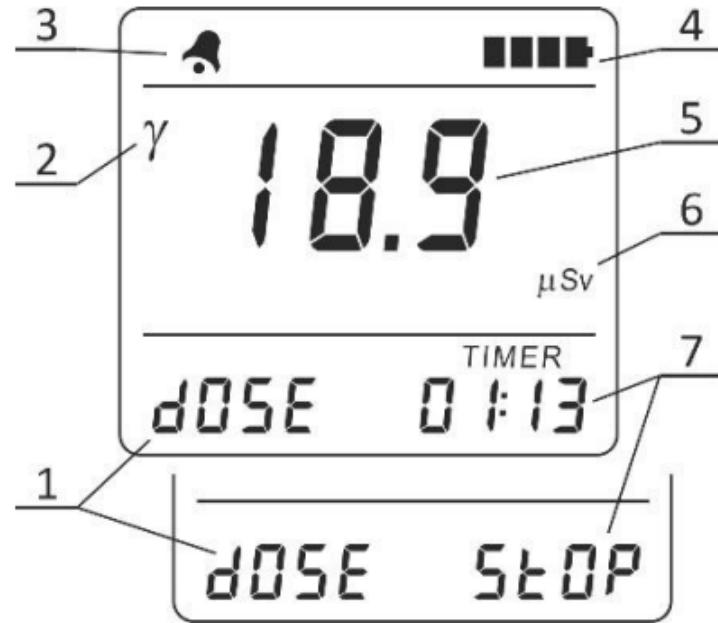

Figure 2.11 - LCD of the radiometer
2.3.3.9.1 The following information is displayed on the LCD of the radiometer (Figure 2.11):
- “dOSE” symbols (1) – an indication of the mode;
- “ γ ” symbol (2) – an indication of the measured radiation type;
- alarm clock symbol (3) (if the alarm clock is on);
- battery status symbol (4);
- measurement result (5);
- dimension of measurement result (6) μSv , mSv or Sv ;
- DE accumulation time or “StOP” symbols (7).
When you change the type of radiation to “ γ ” – the process of DE accumulation is restored. “StOP” symbols (7) on the LCD of the radiometer mean that the DE accumulation process was stopped (Figure 2.11).